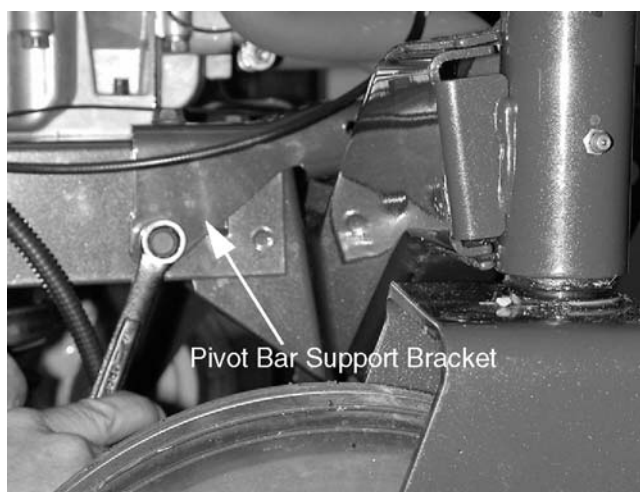

Figure 11-60
13. Remove the longer bolts that attach each bracket to the top of the frame using a 1/2" wrench. See Figure 11-60.